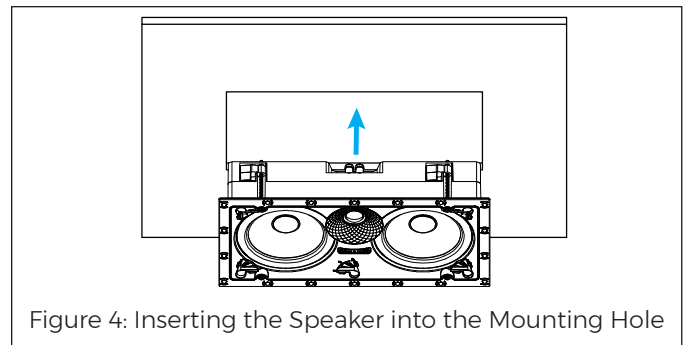
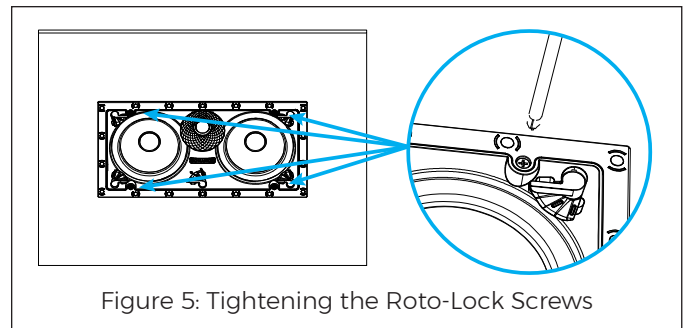

Figure 4: Inserting the Speaker into the Mounting Hole
Figure 5: Tightening the Roto-Lock Screws
- Insert the speaker into the mounting hole (see Figure 4) and tighten the five screws on the front of the speaker baffle (see Figure 5).